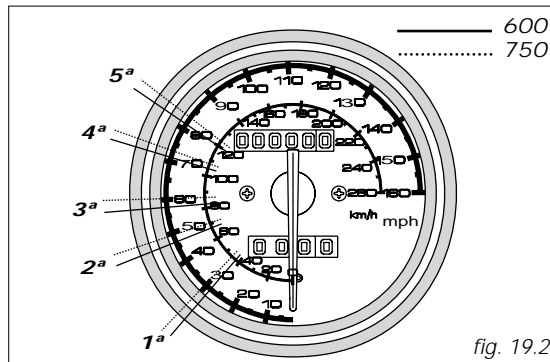
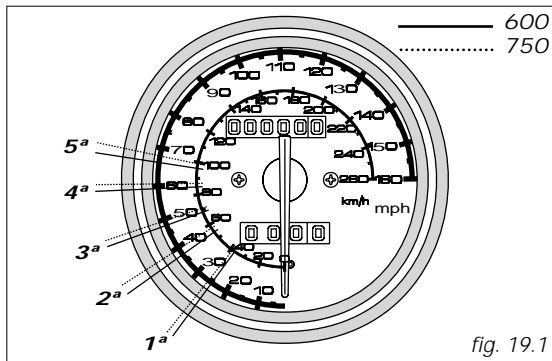
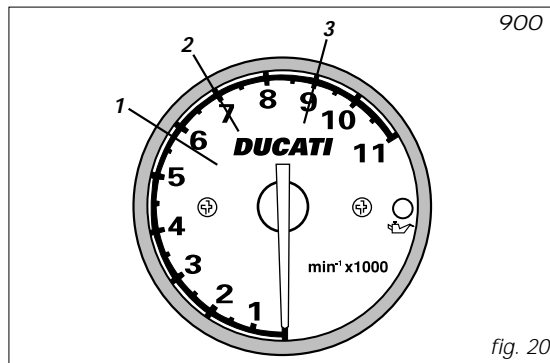

fig. 19.2
fig. 19.1
fig. 20
During the first 1000 km, keep the revolution meter under control. The indicator must not exceed: speed as indicated for the each gear (600/750) (fig. 19.1); 5500-6000 rpm (900) (fig. 20).
At this point, you can squeeze some more power out of your engine, being careful, however, never exceed: 600/750 models - speed as indicated for the each gear (fig. 19.2); 7000 rpm (900) (fig. 20).
900 models (fig. 20): 9000 rpm.